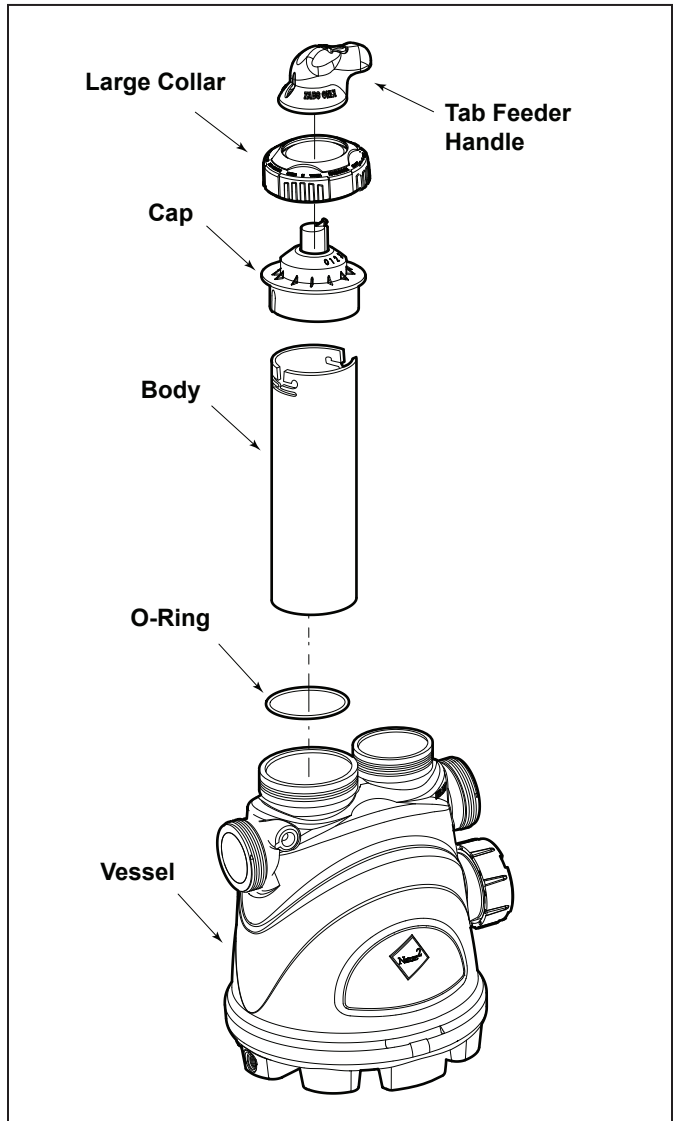

Figure 1. Installation of the Tab Feeder Assembly
4. Press tab on top of the handle to remove. Retain handle for installation onto new cap assembly. See Figure 1.